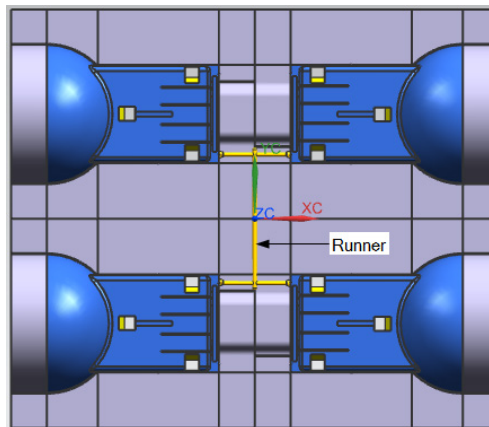

Figure 16-129 The runner position and orientation in the model
3. Select **10** from the **D** drop-down list and enter **92** in the **L** edit box of the **Details** rollout. Click in the **Specify Point** area in the **Placement** rollout and position the runner; refer to Figure 16-129.